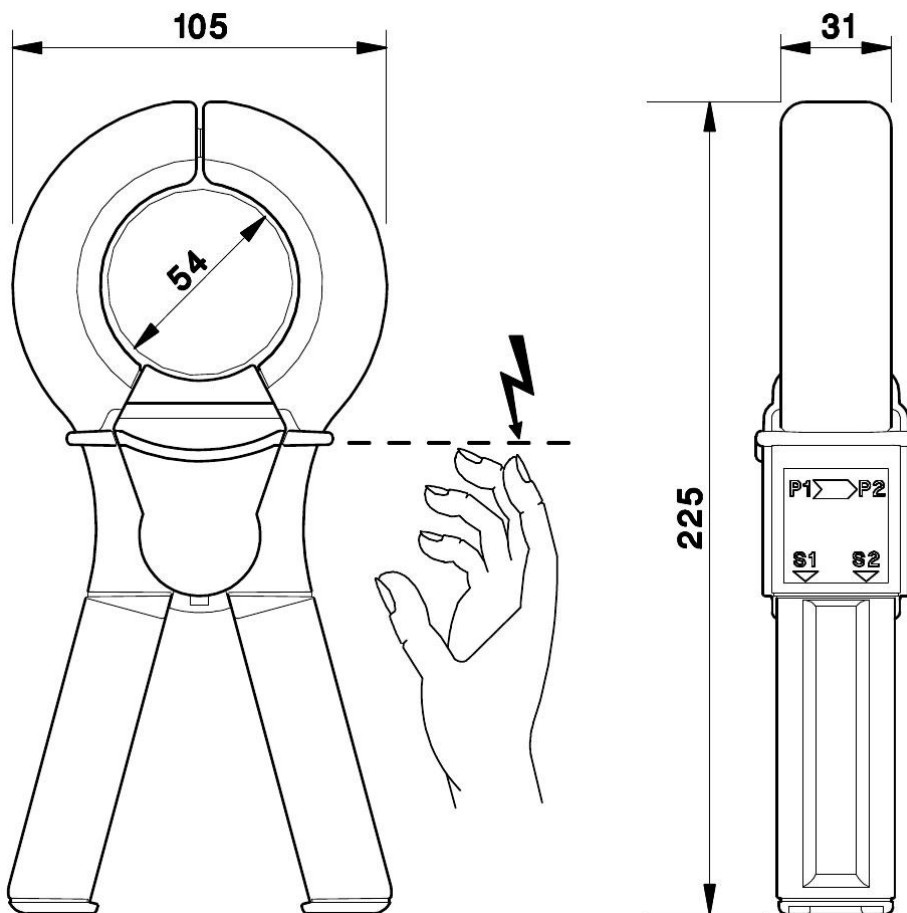

Figure 2.55: Dimensions in mm and protection against electric shock
- For protection against electric shock please refer to Figure 2.55 [→67]